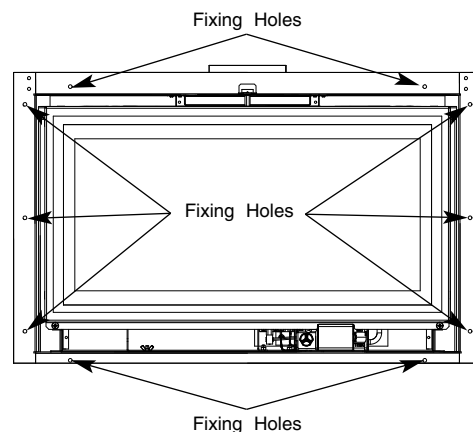

Fig. 14
10. Secure the fire box to the wall using the fixing holes provided in the fire box flange (Fig. 14).